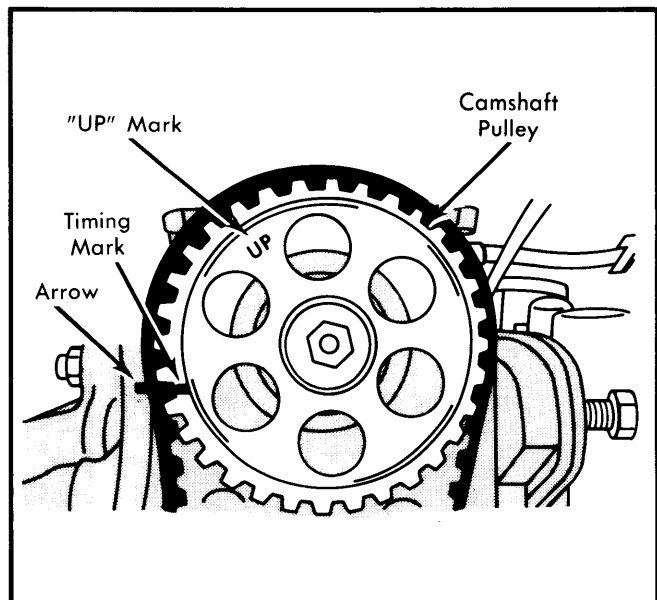

Fig. 3 Camshaft Alignment Marks in Position for Installing Camshaft Belt (1751 cc Engine)
2) Position cylinder head on block making sure holes in head line up with dowel pins in block. On 1751 cc engines, "UP" mark on camshaft gear should be toward top. See Fig. 3.